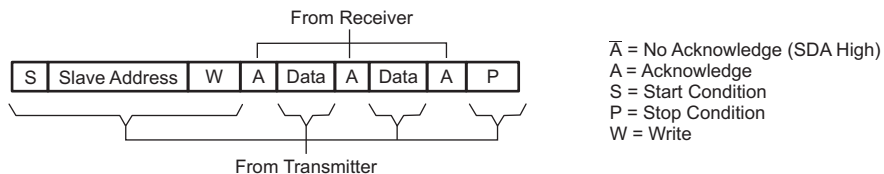
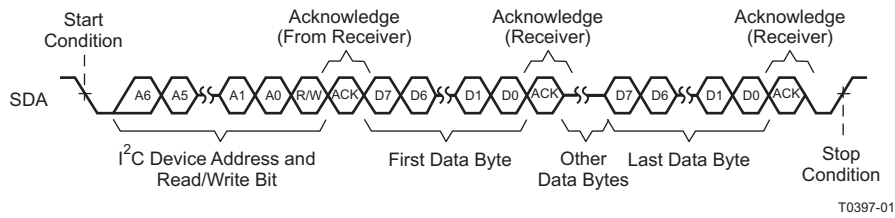
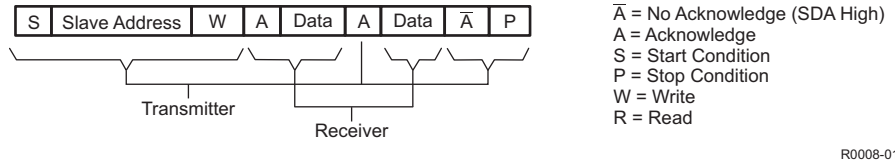
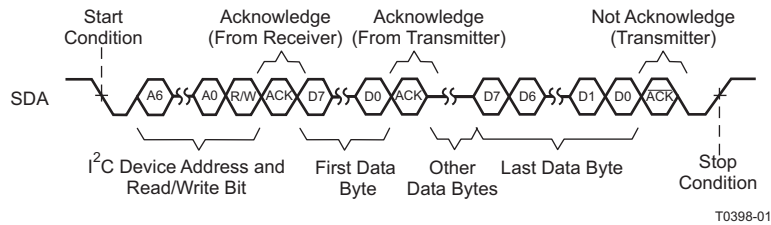

Figure 42. I²C Write Cycle
Figure 43. Multiple-Byte Write Transfer
Figure 44. I²C Read Cycle
Figure 45. Multiple-Byte Read Transfer
- The master generates further SCL cycles to either *transmit* data to the slave (R/W bit 0) or *receive* data from the slave (R/W bit 1). In either case, the *receiver* must acknowledge the data sent by the *transmitter*. So an acknowledge signal can be generated either by the master or by the slave, depending on which one is the receiver. The 9-bit valid data sequences consisting of 8-bit data and 1-bit acknowledge can continue as long as necessary (See Figure 42 through Figure 45).
During a write cycle, the transmitting device must not drive the SDA signal line during the acknowledge cycle so that the receiving device may drive the SDA signal low. After each byte transfer following the address byte, the receiving device pulls the SDA line low for one SCL clock cycle. A stop condition is initiated by the transmitting device after the last byte is transferred. An example of a write cycle can be found in Figure 42 and Figure 43. Note that the TMDS461 allows multiple write transfers to occur. See the Example – Writing to the TMDS461 section for more information.
During a read cycle, the slave receiver acknowledges the initial address byte if it decodes the address as its address. Following this initial acknowledge by the slave, the master device becomes a receiver and acknowledges data bytes sent by the slave. When the master has received all of the requested data bytes from the slave, the not-acknowledge (\bar{A}) condition is initiated by the master by keeping the SDA signal high just before it asserts the stop (P) condition. This sequence terminates a read cycle as shown in Figure 44 and Figure 45. See the Example – Reading from the TMDS461 section for more information.